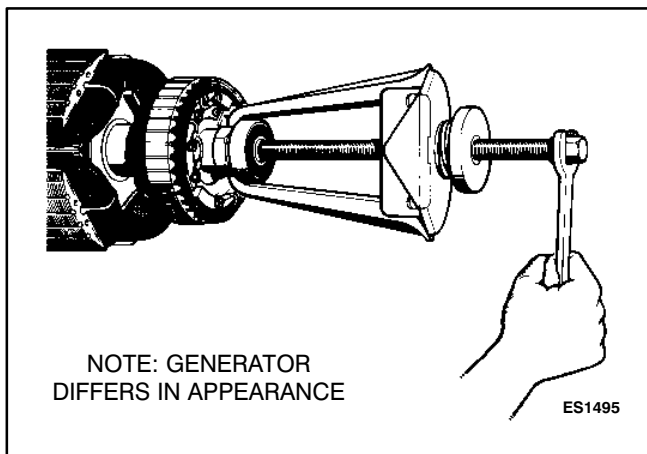

FIGURE 4-7. END BEARING REMOVAL
13. Use a gear puller to remove the end bearing from the rotor shaft (Figure 4-7).